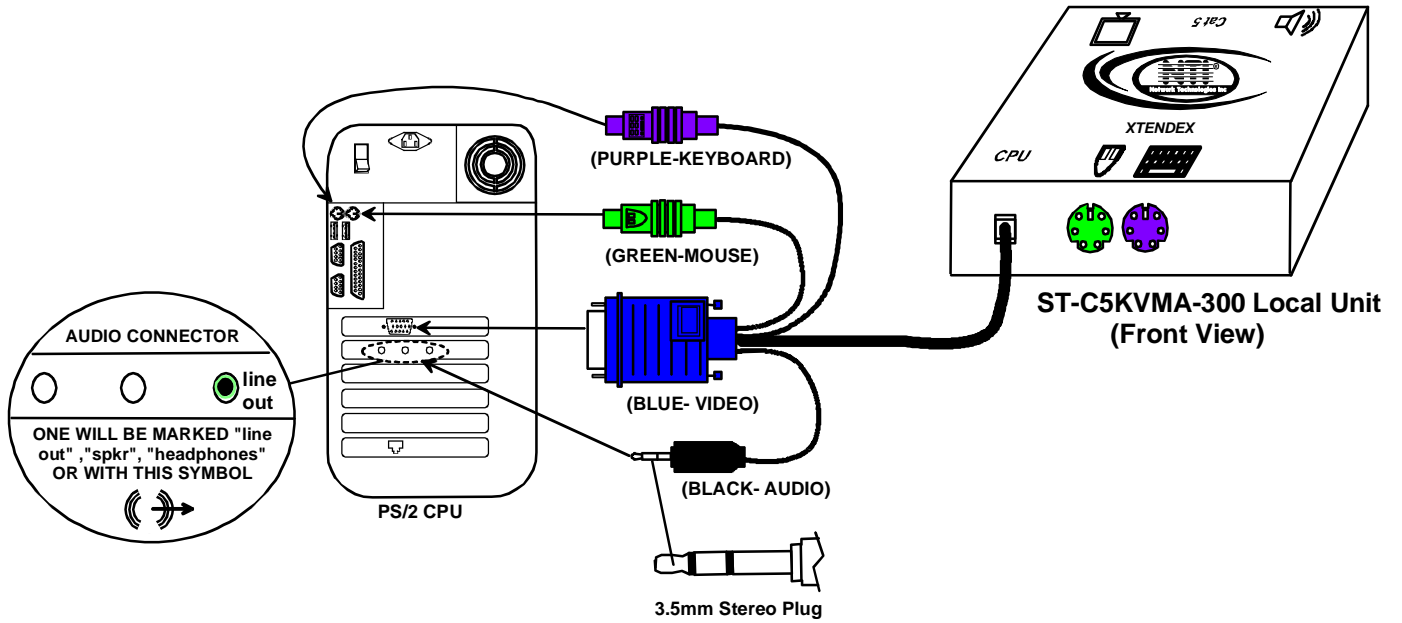

Figure 8- Connect the Local Unit with VGA video and audio support to the CPU
- d) If the Local Unit has Audio support, connect the black 3.5mm stereo plug into the "line out", "spkr", or "headphones" jack on the back of the CPU. (See Figure 8)